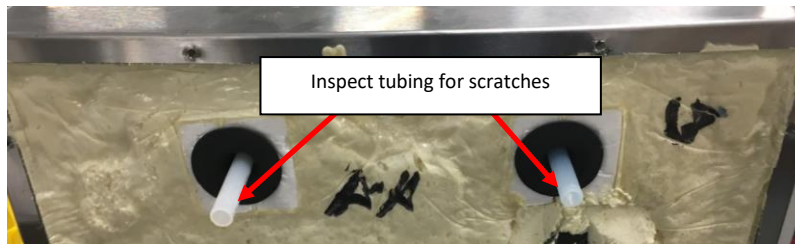

Figure L23: Inspect Tubing for scratches.
- a) Inspect the barrier hoses protruding from the rear wall. Discard the Blue Barrier Hose and replace the Barrier Hose with a new/unused hose if it is scratched or otherwise damaged that may cause leaks. **See Figure L23.**